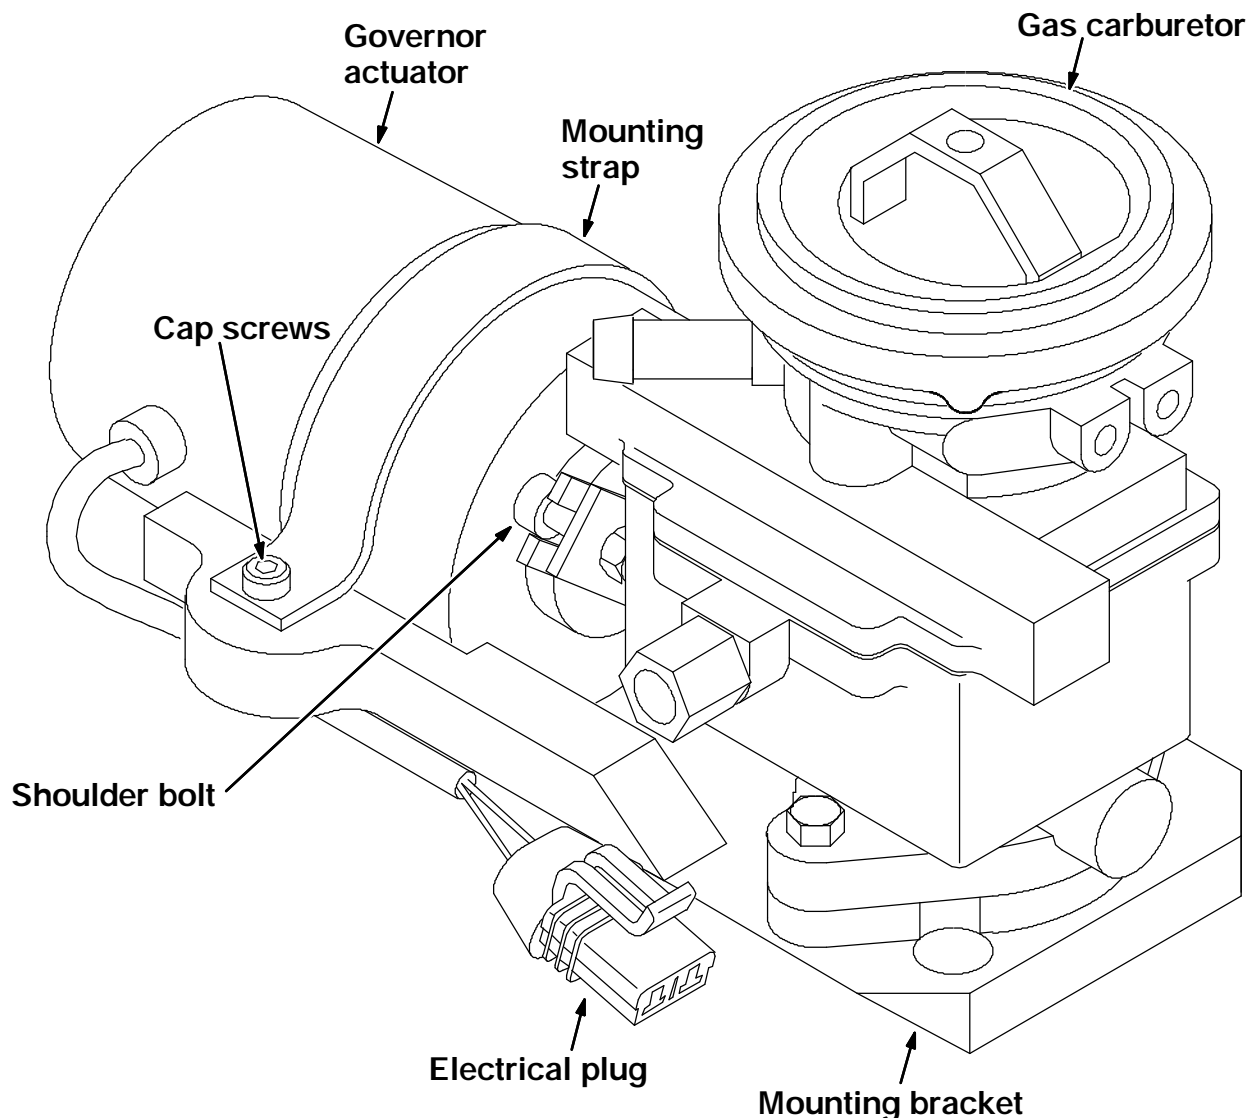

FIG. 1 - Carburetor And Actuator Assembly
(Refer to FIG. 1 and 2)
3. Remove the air cleaner hose at the carburetor. (Refer to FIG. 1 and 2)
4. Remove the hose from the carburetor that leads to the engine breather. (Refer to FIG. 1 and 2)
6. Remove the LP hose from the carburetor. (Refer to FIG. 1 and 2)
7. Remove the two M6 hex nuts from the two hex screws holding the carburetor to the governor mount base. Remove the carburetor from the machine. Retain the gasket and hardware. (Refer to FIG. 1 and 2)
NOTE: When removing the carburetor, lift the arm and shoulder bolt up and out of the slot on the arm of the governor actuator. (Refer to FIG. 1 and 2)
8. Remove the arm from the old carburetor and install on the new carburetor (3) in the same orientation. (Refer to FIG. 1 and 2)
NOTE: Install the arm flush with the end of the shaft and position the arm to swing approximately equal distance on either side of vertical. Tighten the arm clamp bolt with the nyloc nut. Firmly tighten. (Refer to FIG. 1 and 2)
10. Install the new carburetor (3) and gasket on the mount bracket (2). Install the M6 hex screws up through the bottom. Install the hex nuts. Do not tighten the hardware at this time. (Refer to FIG. 1 and 2)
NOTE: When install the carburetor on the mount bracket, position the shoulder bolt in the slot on the actuator arm. (Refer to FIG. 1 and 2)
11. Align the shaft on the carburetor (3) with the slot in the mount bracket and the shaft on the actuator.. Firmly tighten the hardware. (Refer to FIG. 1 and 2)
12. Reconnect the LP hose, vacuum hose, and air cleaner hose to the new carburetor. (Refer to FIG. 1 and 2)
13. Open the valve on the LP tank. Check the LP hose, at the carburetor, for any leaks. (Refer to FIG. 1 and 2)
2. Remove the air cleaner hose at the carburetor. (Refer to FIG. 1 and 2)
3. Remove the air cleaner horn from the carburetor. (Refer to FIG. 1 and 2)
5. Remove the gas line from the fuel filter. (Refer to FIG. 1 and 2)
6. Remove the two M6 hex nuts from the two hex screws holding the carburetor to the governor mount base. Remove the carburetor from the machine. Retain the gasket and hardware. (Refer to FIG. 1 and 2)
7. Remove the arm from the old carburetor and install on the new carburetor in the same orientation. (Refer to FIG. 1 and 2)
9. Install the new carburetor (3) and gasket on the mount bracket (2). Install the hex screws up through the bottom. Install the hex screws. Do not tighten the hardware at this time. (Refer to FIG. 1 and 2)
10. Align the shaft on the carburetor (1) with the slot in the mount bracket and the shaft on the actuator. Firmly tighten the hardware. (Refer to FIG. 1 and 2)
11. Install the elbow and fuel filter from the old carburetor on the new carburetor (3).
12. Reconnect the gas line, breather hose, air cleaner horn, and air cleaner hose to the new carburetor (Refer to FIG. 1 and 2)
2. Unplug the governor actuator from the electrical harness. (Refer to FIG. 1 and 2)
3. Remove and retain the cap screw holding the wire clamp to the actuator mount bracket. (Refer to FIG. 1 and 2)
4. Remove and retain the two cap screws holding the mounting strap to the mount bracket. (Refer to FIG. 1 and 2)
5. Carefully remove the actuator from the mount bracket. (Refer to FIG. 1 and 2)
NOTE: When removing the actuator, slip the slotted arm out from the shoulder bolt on the arm of the carburetor. (Refer to FIG. 1 and 2)
6. Remove the arm from the old actuator and install on the new actuator (1) in the same orientation. (Refer to FIG. 1 and 2)
7. Install the new actuator (1) by sliding the slotted arm under the shoulder bolt on the carburetor arm and fitting the actuator in the matching radius of the mount bracket. (Refer to FIG. 1 and 2)
8. Loosely assemble the mount strap (5) using the two cap screws. Use a small amount of loctite on the threads of cap screws. Do not tighten at this time. (Refer to FIG. 1 and 2)